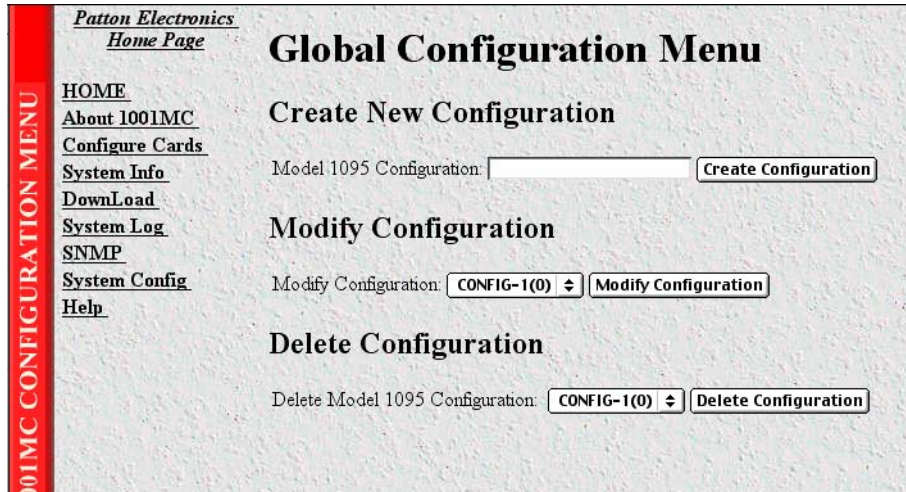

Figure 130. Global Configuration Menu page
1. Click in the Model 1095 Configuration text box (see figure 130) and type a short name (10 characters or less) for the new template, then click the **Create Configuration** button.